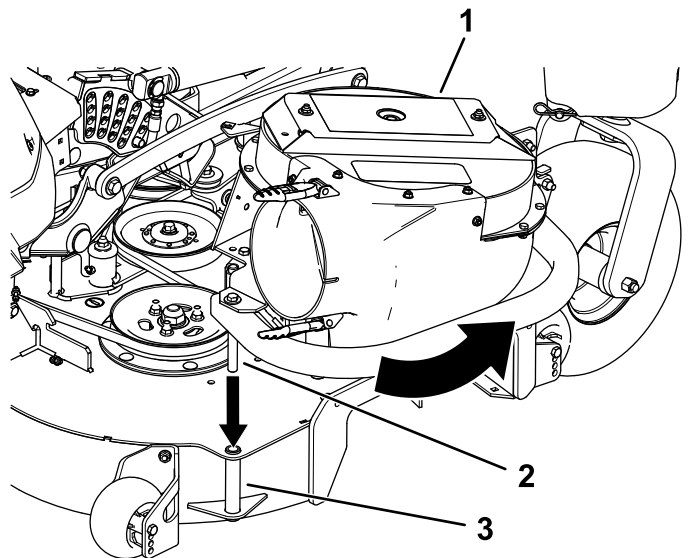

Figure 8
2. Insert the blower pivot pin into the blower support and rotate the blower assembly inward toward the machine (Figure 8).